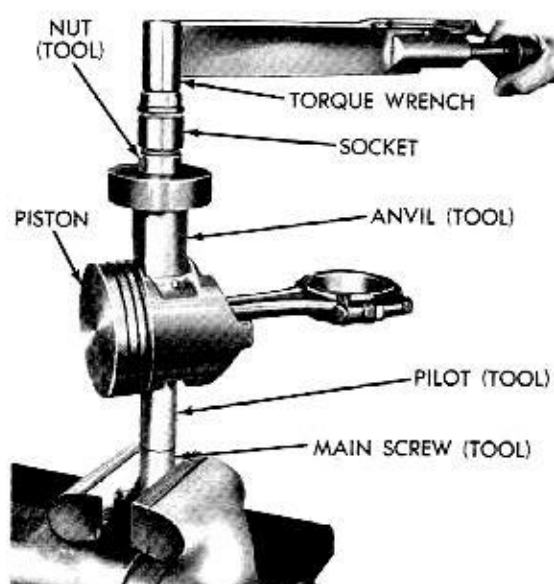

Fig. 42—Testing Fit of Piston Pin In Connecting Rod
(11) Place assembly in a vise (Fig. 42).
(12) Attach torque wrench to nut and tighten up to